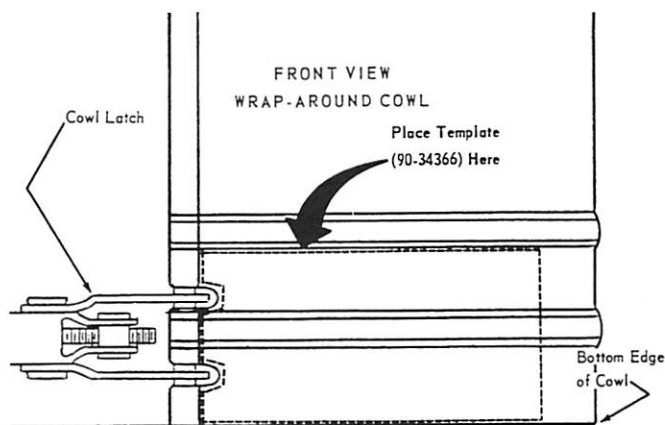

Figure 10. Template Position
2. Place template in position on wrap-around cowl as shown in Figure 10.